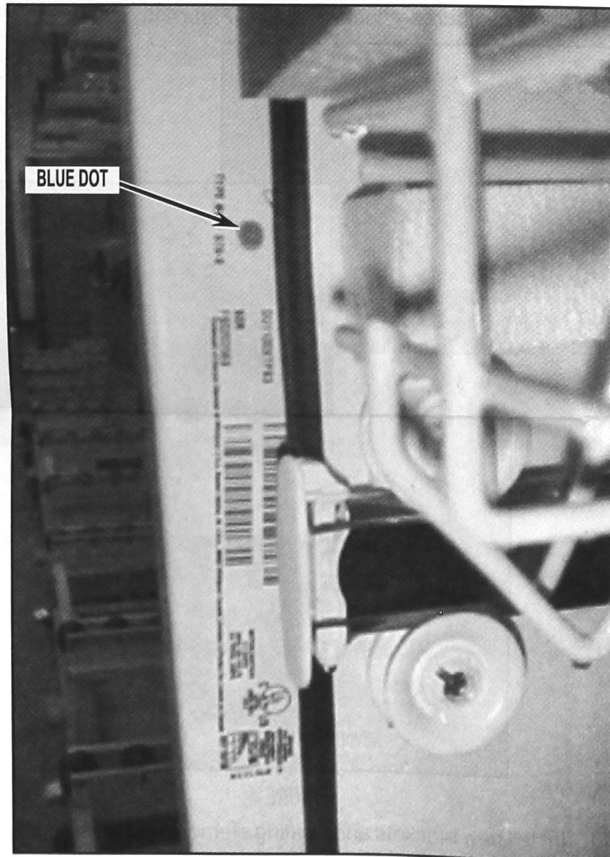

FIGURE 5
15. Install blue dot supplied with kit at the top of the model / serial tag just below the logo. See *Figure 5*.